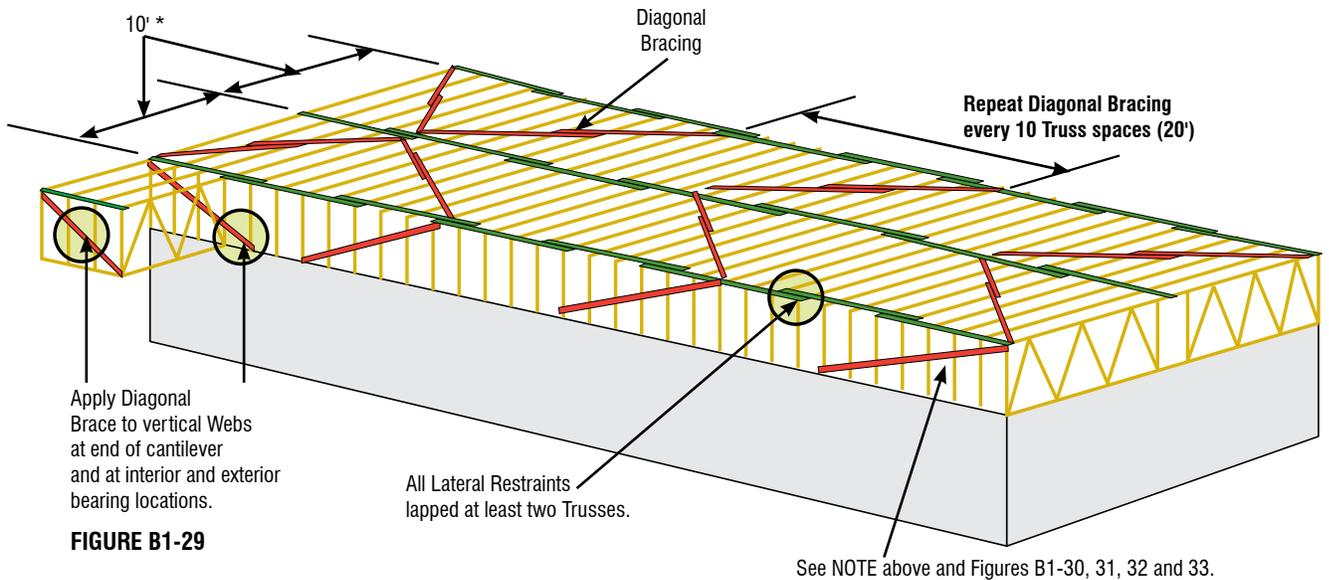

FIGURE B1-29
- ✔ 3x2 and 4x2 Parallel Chord Truss Top Chords can be Laterally Restrained and Diagonally Braced as provided in Figure B1-29 through B1-33. See also **BCSI-B7C** for additional information.